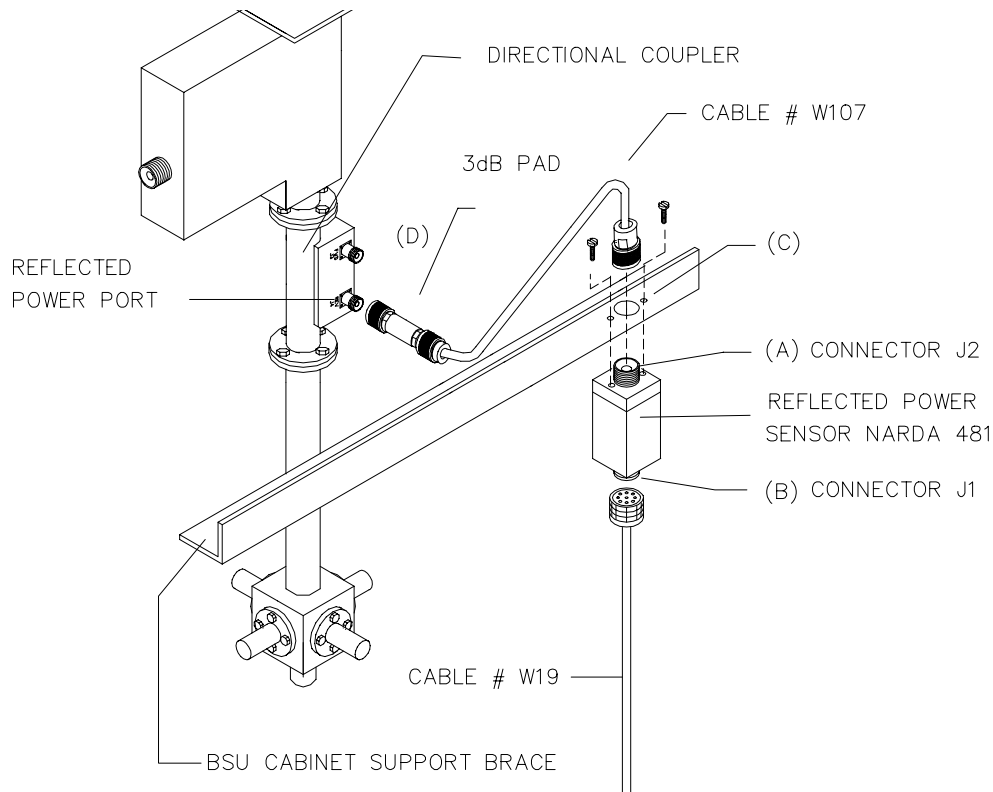

Figure 5-15 Reflected Peak Power Sensor Replacement
3. Unscrew and remove the type "N" connector from the top of the Reflected Power Sensor point (A) in [Figure 5-15].
4. Unscrew and remove the military style connector from the bottom of the Reflected Power Sensor point (B) in [Figure 5-15].
5. Remove the mounting screws and remove the sensor point (C) in [Figure 5-15].